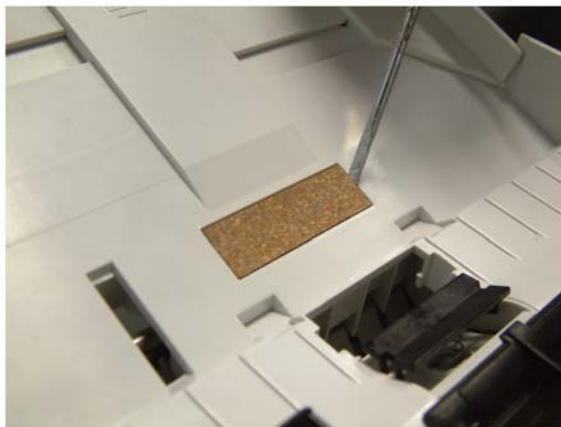

Figure 2
4. Insert a screwdriver in the right slot as shown below and make a pivoting movement downwards without strain to remove the cork pad, Figure 2.